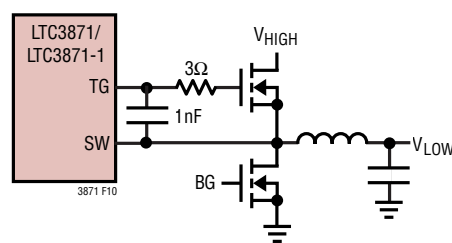

Figure 10. Filter for TG Traces > 25mm
- The TG traces from the controller IC to the gate of the external MOSFET should be kept as short as possible to minimize the parasitic inductance. This inductance can cause voltage spikes that can potentially exceed the ABS Max rating of the drivers and damage them. A 3 $\Omega$  resistor and 1nF capacitor can be used to filter these spikes as shown in Figure 10. When using the 9V/10V  $DRV_{SET}$  settings, or if the TG traces are longer than 25mm, this filter network must be used on both TG1 and TG2. The 1nF capacitor should be placed as close to the TG/SW pins as possible.